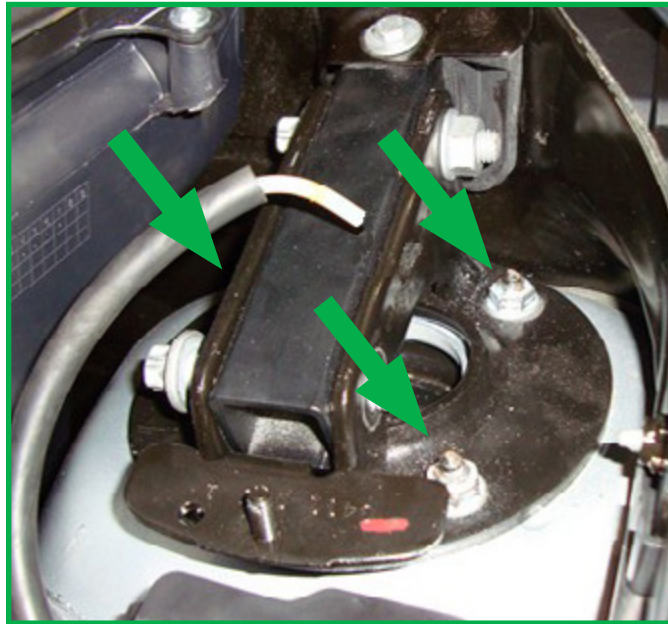

FIGURE 6
8. Remove the three (3) upper mount flange nuts. (Figure 6)